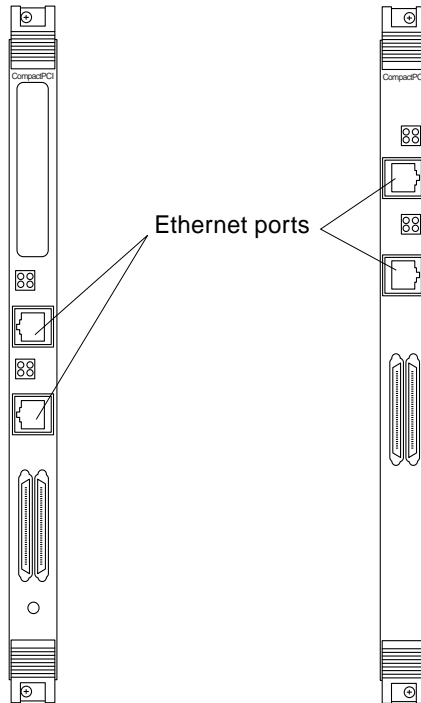

FIGURE 3-1 Location of Ethernet Ports
1. **Locate the Ethernet ports on the adapter that you installed in the system** (FIGURE 3-1).